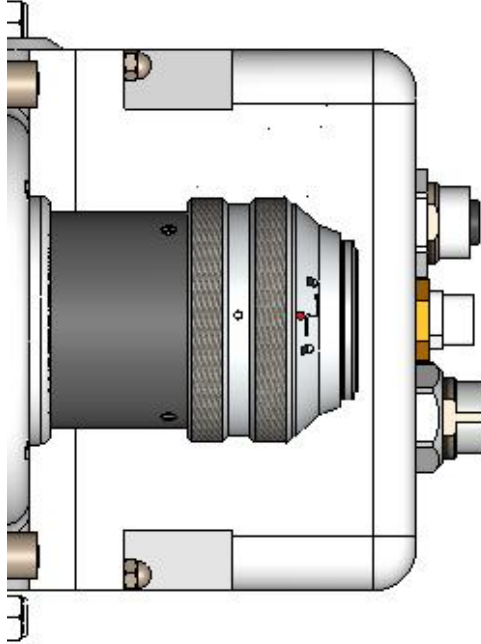

Figure 2.7
③ Turn the QBH connector into the open state, that is, screw it to the limit position counterclockwise (a "thump" sound can be heard). Do not twist with great force, otherwise the internal structure of the QBH may be damaged, as shown in Figure 2.7.